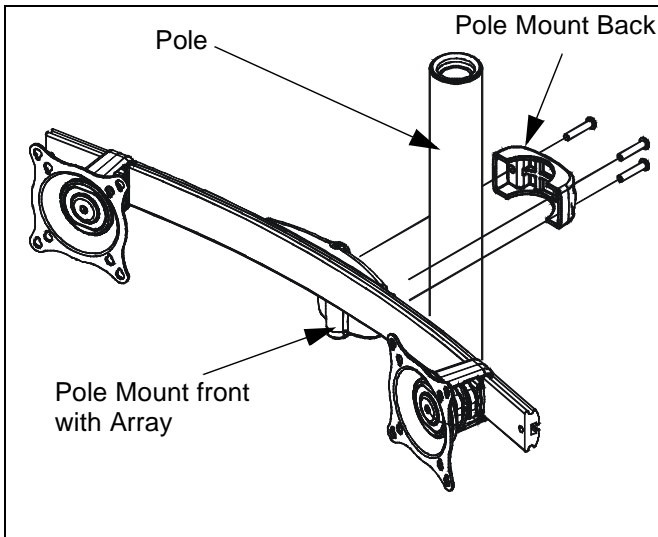

Figure 2: Mount Array on Pole
1. Remove pole mount back from pole mount front by loosening and removing 3 BHCS using 5/32" hex key. (See Figure 2)